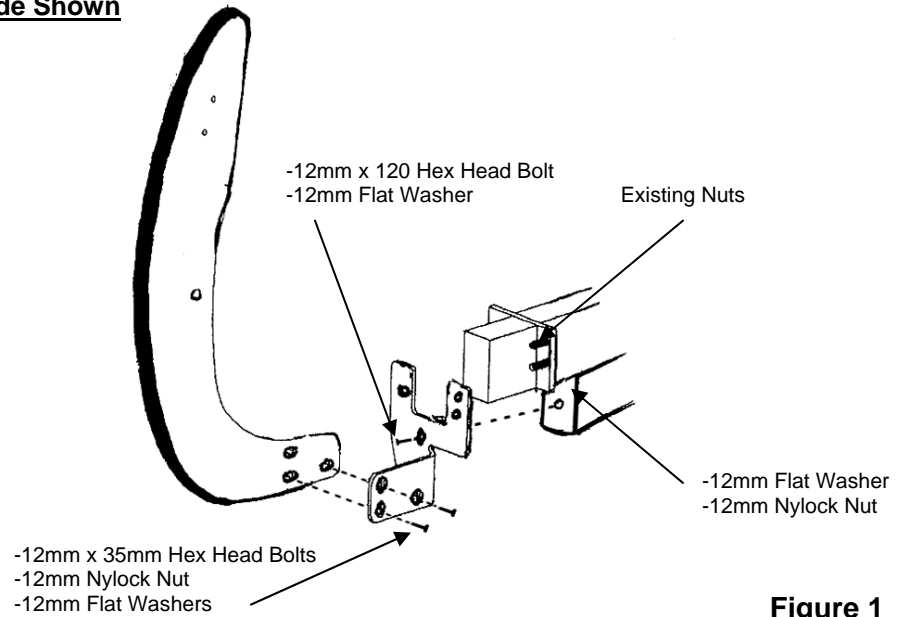

Figure 1
2. Starting on the driver side remove the three existing nuts that hold the bumper support frame to the vehicle frame **(Figure 1)**.
3. Attach the upper holes on the driver side Mounting Bracket with existing nuts. To attach the lower hole on the Mounting Bracket use the included (1) 12mm x 120mm Hex Head Bolt, (1) 12mm Nylock Nut, and (2) 12mm Flat Washers **(Figure 1)**.
7. With help position the Grille Guard on the inside of Mounting Brackets. Use the included (6) 12mm x 35mm Hex Head Bolts, (6) 12mm Nylock Nuts, and (12) 12mm Flat Washers to attach Grille Guard to Mounting Brackets **(Figure 1)**.
8. Proceed to attach the Top Brackets on the inner edge of the Grille Guard using the included (2) 10mm x 25mm Button Head Bolts, (2) 10mm Nylock Nuts, and (2) 10mm Flat Washers.